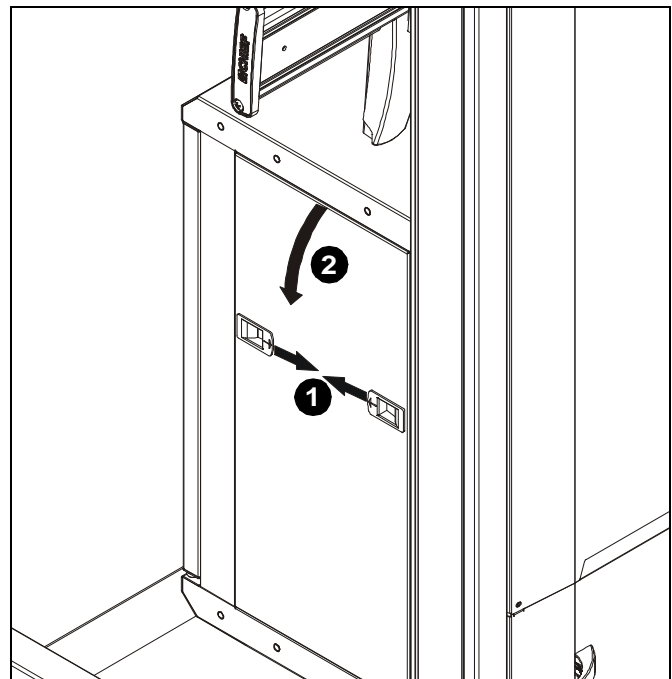

Figure 24
1. Push two buckles inside toward each other. (See Figure 24)
2. Pull door open from the top. (See Figure 24)